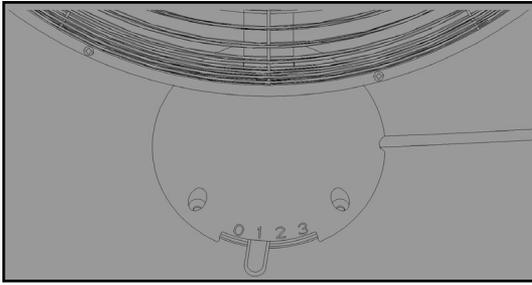

Fig.5
1. To operate the fan, slide the speed control bar to High "3", for strong wind, Low "1" for mild one, or Medium "2" for wind between them, To turn off the fan, slide the speed control bar to off position "0". (Fig.5)